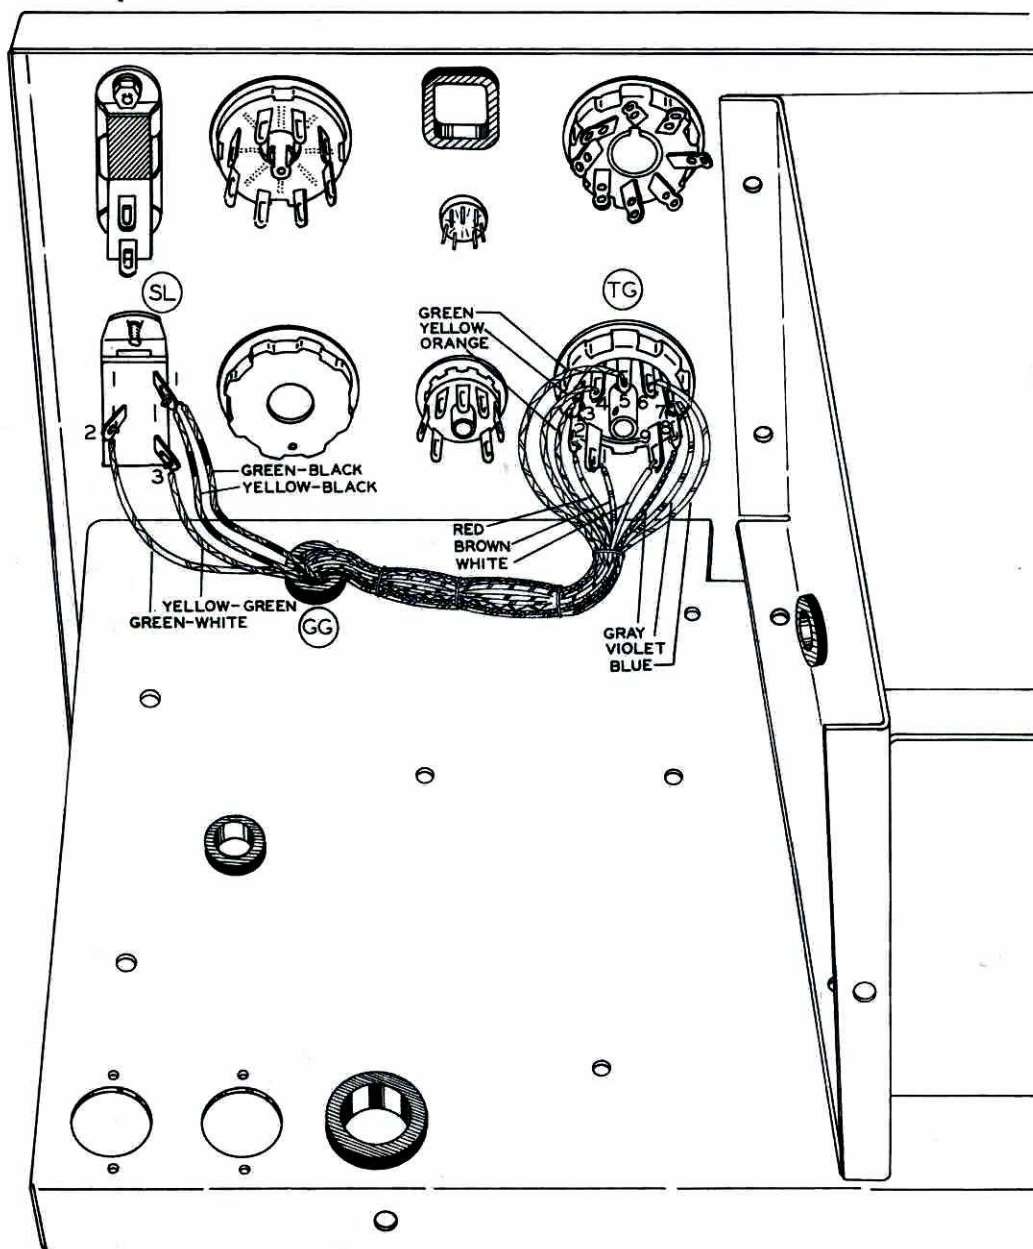

Figure 21
- () Starting from the bottom side of the chassis, slide the tube socket end of the SELECTOR switch to tube socket harness through grommet GG. Slide the chassis down onto the harness as necessary to allow working space to make connections to socket TG and switch SL, as shown in Figure 21.